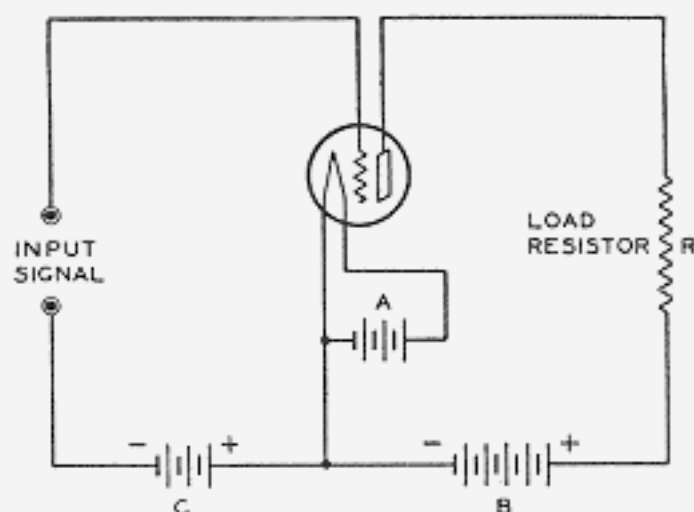

Fig. 4
The plate current flowing through the plate load resistor (R) of Fig. 4 causes a voltage drop which varies directly with the plate current. The ratio of this voltage variation produced in the load resistor to the grid input voltage is a measure of the voltage amplification, or gain, of the tube stage. This ratio is not the same as the amplification factor of the tube, but is determined by the combined effects of plate resistance, load resistance or impedance, and the amplification factor. The voltage amplification per stage due to the tube is expressed by the following convenient formulae: